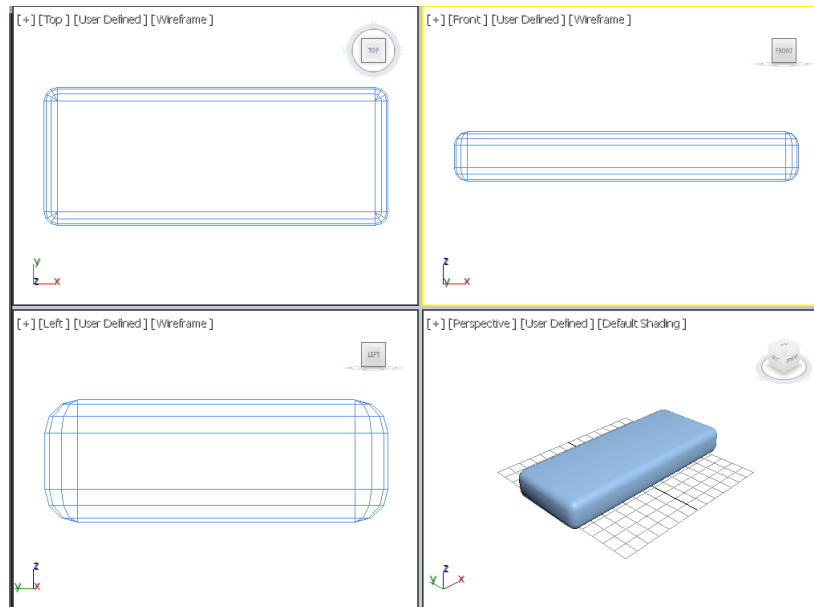

Figure 3-20 A chamfer box created for seat support
- Choose the **Create** button; a chamfer box is created, as shown in Figure 3-20.